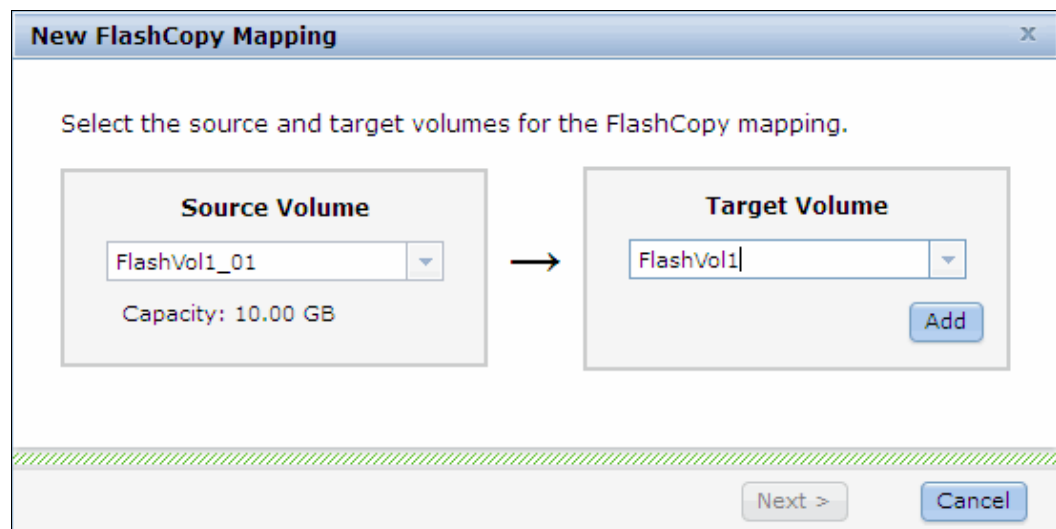

Figure 10-46 Select target volume
3. The Source Volume is preselected with the target volume that was selected in the previous step. Select the Target Volume from the drop-down menu (you select the source volume that you want to restore). In our example, we select FlashVol1, as shown in Figure 10-46.